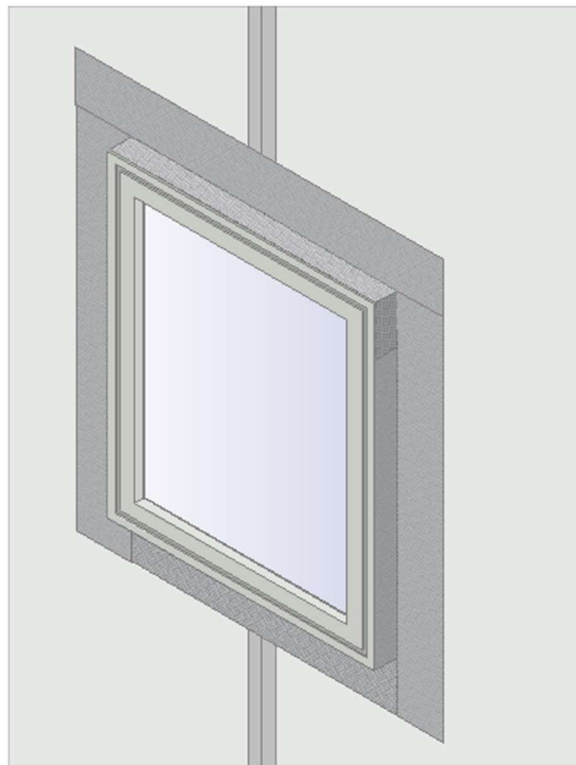

Figure 13
- When all four sides are complete the membrane should resemble a picture frame around the perimeter (Figure 13).